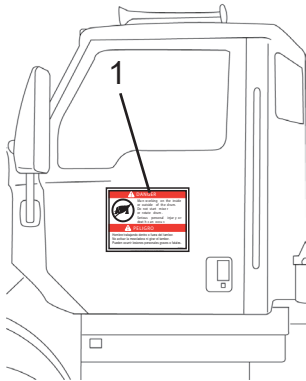

Figure 2
9. Place magnetic “DANGER” signs (Figure 2, Item 1) on both doors: “Man working on drum. Do not start Mixer or rotate drum. Serious personal injury or death can occur.”